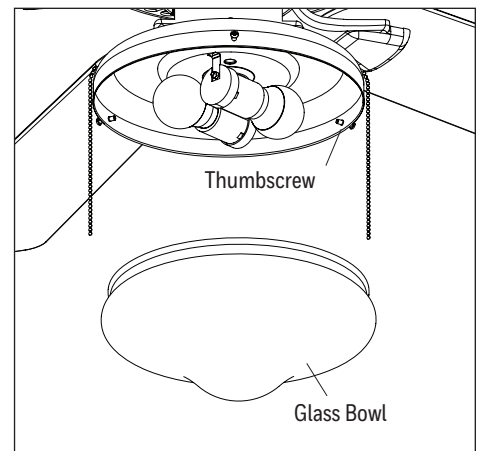

Figure 5.9
- Loosen the three thumbscrews on the lower edge of the light kit. Lift the glass globe to light kit, secure by tightening the loosened thumbscrews (Figure 5.9).